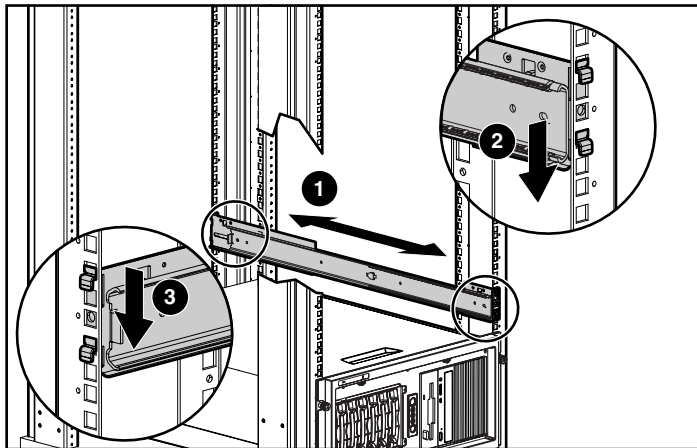

Figure 2-9: Securing the mounting bracket slide assembly to the rack
1. Select the appropriate slide assembly, matching the position label on the slide with the side being installed. The slide assembly as shown in Figure 2-9 would be labeled “Front – Right” on the inside front surface.
2. Position the mounting bracket according to the pencil marks made with the template earlier, extending the slide assembly to fit the rack (1).
3. Secure the front of the mounting bracket first, inserting the mounting tabs into position and pushing down until the locking latch engages (2).
4. Secure the back of the mounting bracket (would be marked “Back – Right” in Figure 2-9 example) by inserting the mounting tabs into the rack and pushing down until the locking latch engages (3).